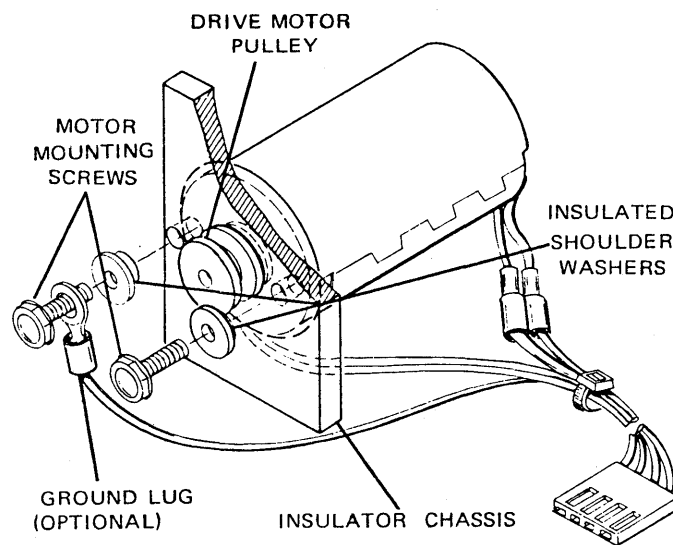

Figure 6-4. Drive Motor Ground Lug
- g. If the drive motor ground lug is secured by the left side motor mounting screw, run the screw through the ground lug and shoulder washer, and install (see figure 6-4). If the ground lug is secured by the third screw, install the right side motor mounting screw and attach the ground lug to the chassis with the third screw.